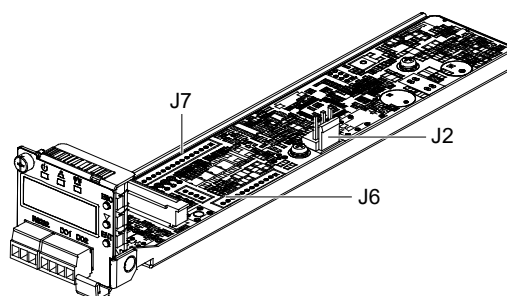

Figure 4-3 M225S Controller replacement (2)
3. Pull out the controller unit slowly until the J2 terminal is completely exposed, and pull out the connected terminals from J2, J6, J7 carefully and do insulation respectively. (as shown in Figure 4-3).